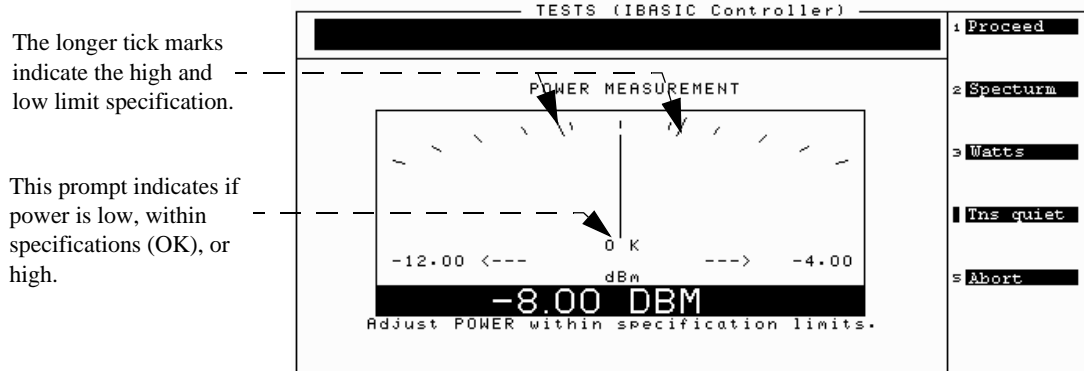

Figure 16 TX IF Power Meter Display
1. When the testing is complete for the first channel, the Test Set will display the power meter screen (see **figure 16**) if you set the `Adjust Power Level` parameter to `Always` or `On fail` in the `Test Parameters & Specs` Menu screen.